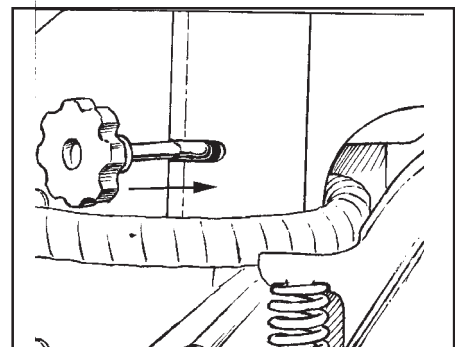

Figure 21
8. Rotate the two clamping studs (with knobs) located on the left side of the machine towards the inner part of the brush head unit (see figure 21).